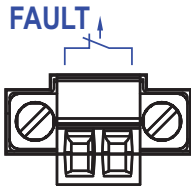

Figure 13: 2-pin terminal block
- ▶ The signal contact (“FAULT”, for pin assignment see fig. 13) is used for the remote monitoring of the device to enable remote diagnostics. You can specify the type of function monitoring in the Management.